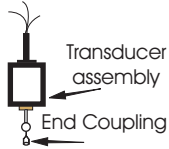

Figure 2
3. To connect the probe to the transducer, simply snap the free end of the chain on the top of the probe into the end coupling connected to the split ring located at the bottom of the transducer. (See **Figure 2**) Screw the transducer assembly onto the tank's 2" pipe nipple. **When the tank is empty the probe should never touch the bottom of the tank. Adjust the bead chain so that the bottom of the probe is the distance from the tank bottom as specified on the order information sheet.**